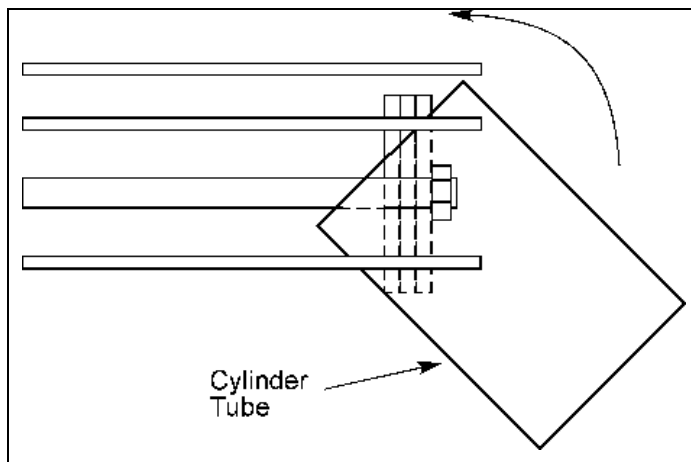

Figure 3 – Cylinder Tube Installation
- Note:** The tube will push on easier if one or two of the tie rods are removed and the tube is held at a 45 angle while pushing it on (see Figure 3).